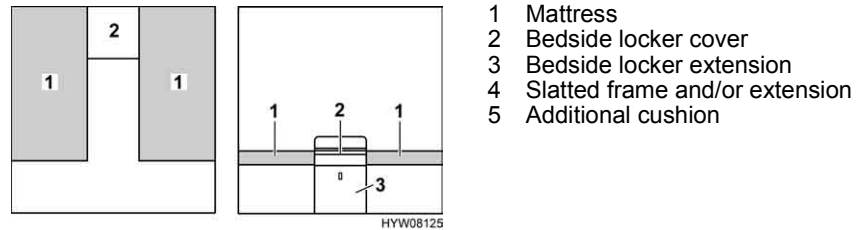

Fig. 113 Prior to conversion
- Remove the bedside locker cover (Fig. 113,2) and put it to one side.